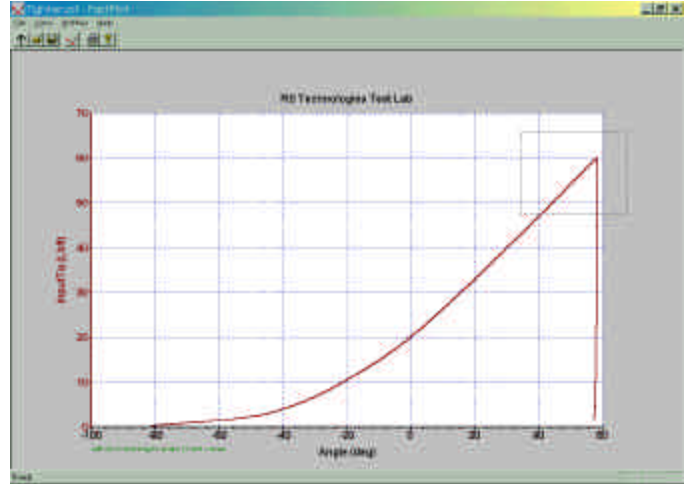
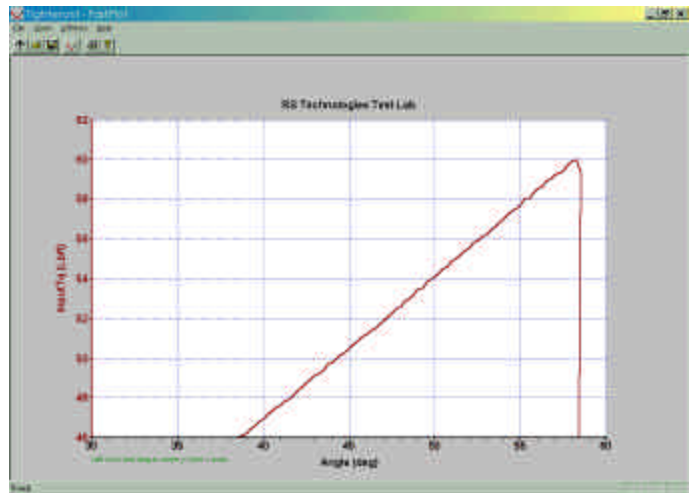

Figure 9. Zoom In Data
Figure 10. Zoomed In Graph
9. If you want to zoom in on a section of the graph, click and draw a box around the desired portion of data, as shown in Figure 9, and the program zooms in to the desired selection, as shown in Figure 10. You may then draw another box to zoom in further, or click on the *Draw* button to go back to the original view or reconfigure your view of the data.
Using this plot you can determine the Tightening Angle for your rundown. The tightening angle represents the amount of fastener rotation that goes into actually clamping the assembly together. Add up the amount of angle from where the straight line intersects the zero torque level to where tightening stops. In the example shown in Figure 9, the tightening angle would be 80 degrees (-22 plus 58 = 80). If you know the angle-tension coefficient for this joint, you would then be able to accurately estimate the tension in the joint. In this case, the angle-tension coefficient has been determined as 94 lbs. of clamp force per degree of tightening angle. Thus, 80 degrees of tightening angle X 94 lbs/degree = 7520 lbs. of estimated clamp load.